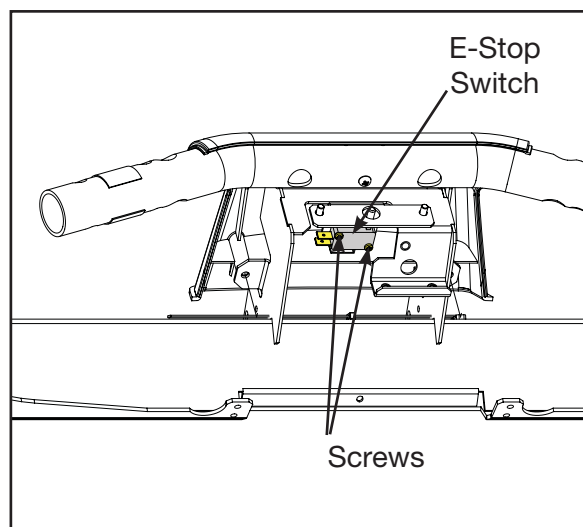

Figure 28
- A. Using a Philips head screwdriver remove the two screws securing the e-stop switch. See Figure 28.
- A. Using a Philips head screwdriver install the two screws securing the e-stop switch. See Figure 28.